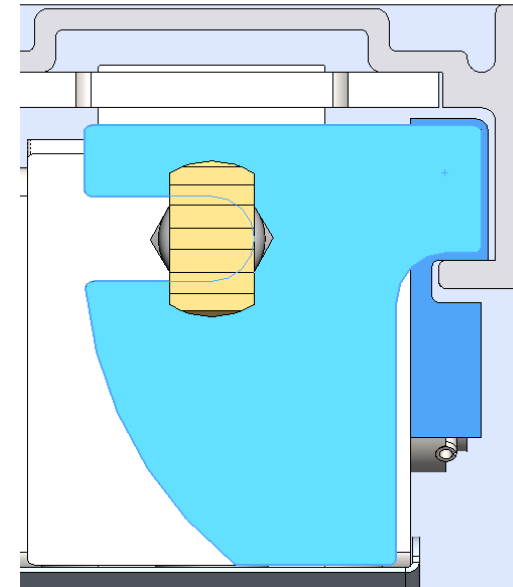

Figure 12
22. Verify that the edges of the lift side stop plate do not extend past the guide block as shown in *Figure 12*, so that the block always contacts the post before the plate. Then tighten the 5/8" nut on top of the stop plate.